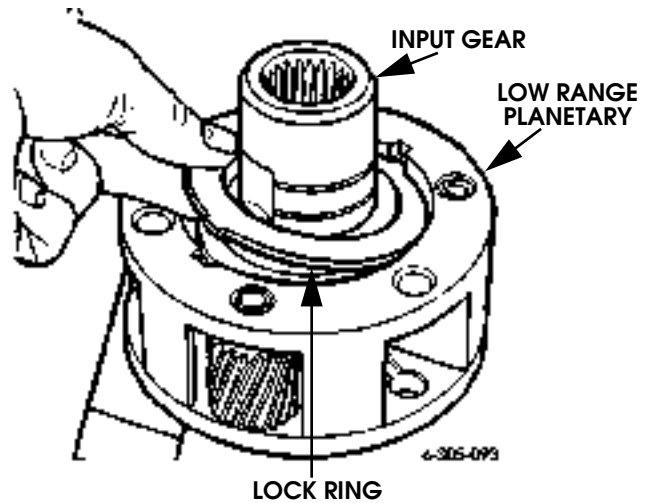
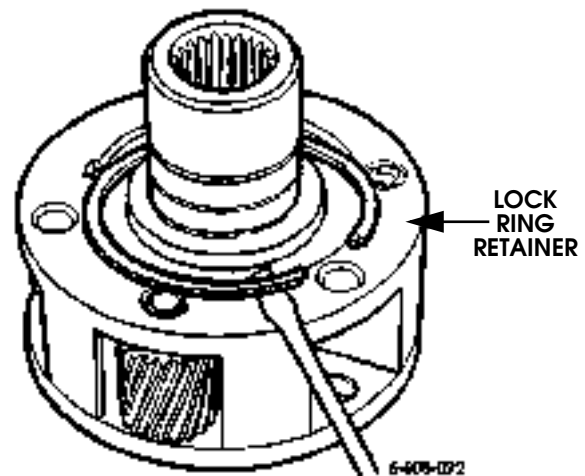

Figure 5-131: Lock Ring Installation
Figure 5-132: Input Gear Snap Ring Installation
- e. Install lock ring (Figure 5-131) and lock ring retainer (Figure 5-132).